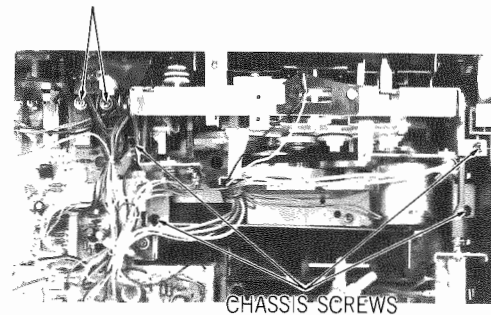

Figure 23
- 2) Remove four screws holding Chassis as shown in Figure 23.